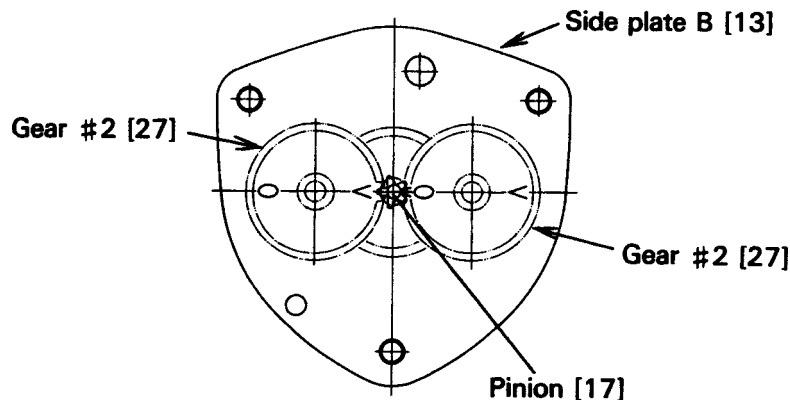

Figure 6-4 Gear Train Assembly
- 8) Grease the two pairs of the gear #2 [27], the load gear [25], and the gear of the pinion [17]. Put them in the gear plain bearing (bearing A) of the side plate B [13]. Letters "O" and "V" on the gears must face each other as shown in figure 6-4 below. Do not forget to apply grease to the boss on the both sides of the gear #2.